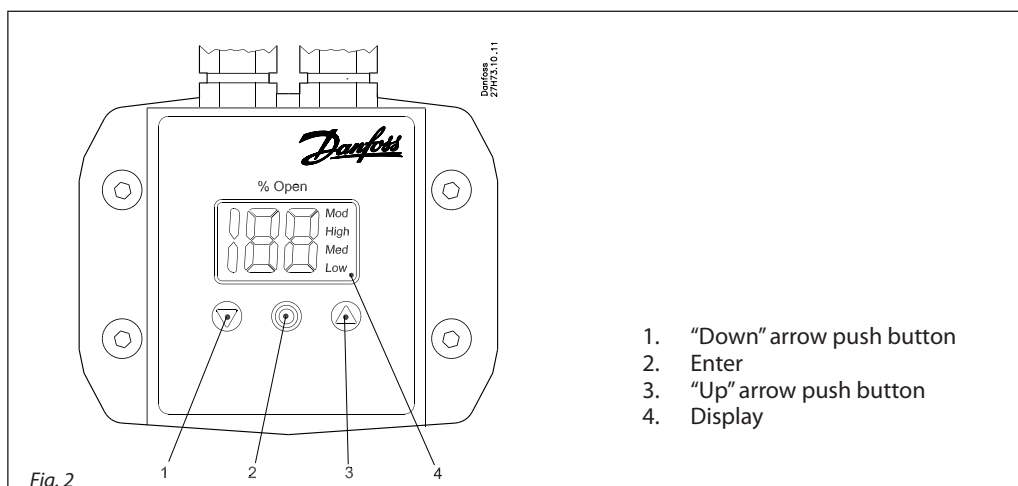
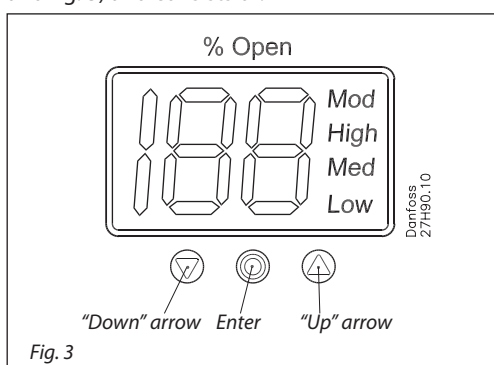

Fig. 2
Fig. 3
The setting of parameters is managed by means of the integrated ICAD 600A-TS MMI (see fig. 2 and fig. 3) and consists of:
- "Down" arrow push button (fig. 2, pos. 1)
- "Up" arrow pushbutton (fig. 2, pos. 3)
- Enter push button (fig. 2, pos. 2)
- To exit from the **Parameter list** and return to the display of Opening Degree (OD), keep the Enter button activated for 2 seconds.
- Display (fig. 2, pos. 4)
- Displays the function status by means of text (fig. 2, pos. 4).
If an alarm has been detected, the ICAD 600A-TS display (fig. 2) will alternate between showing Actual alarm and Present Opening Degree.